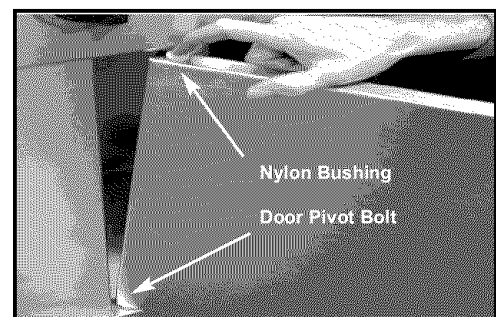

Fig. 8
1. While holding the door line up the bottom hole on the door with the bolt sticking up through base of cart. Next place a nylon bushing onto the top pin, then depress the pin and insert into the hole in the bottom of the grill. (See Fig. 8)